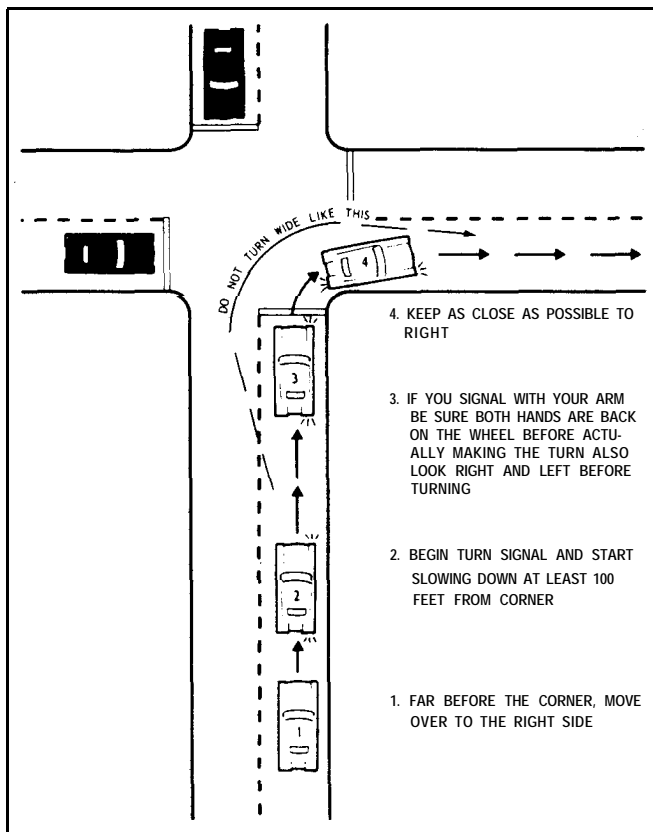

FIGURE 16A
9.9 RIGHT AND LEFT TURNS. On two-lane streets or highways, all turns should start and end in the right lane; Figures 16A and 16B illustrate the correct method for making such turns. On streets or highways with four or more lanes, right turns should start and end in the extreme right lane; left turns should start and end in the lane just to the right of the center line.